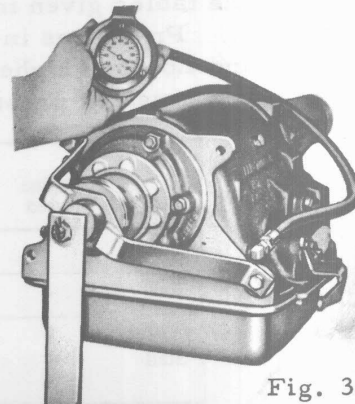

Fig. 36
- ☒ Install the bench testing tool on the transmission (Fig. 36).
- ☒ Install the pressure gauge (Fig. 36).